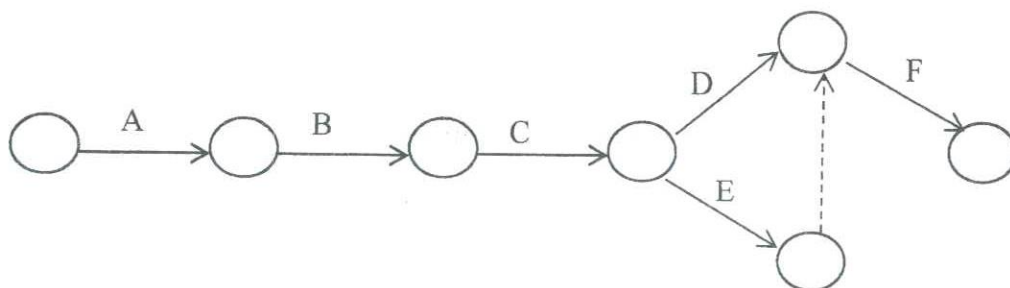

Figure Q3: Network Diagram for the LOB Schedule
- c) Figure Q3 shows an activity network diagram where a Line of Balance (LOB) schedule is to be prepared. Table Q3 (a) gives other planning data for the LOB schedule. Buffer time is taken as two days.
- i Draw the LOB diagram to represent the information available in Figure Q3 and Table Q3 (a). Use the Data Sheet provided in Page 07 to draw the LOB diagram.